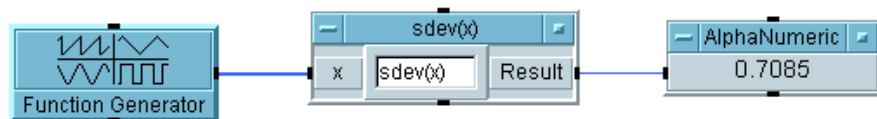

Figure 4-4. Calculating Standard Deviation
6. Run the program. It should look like Figure 4-4.